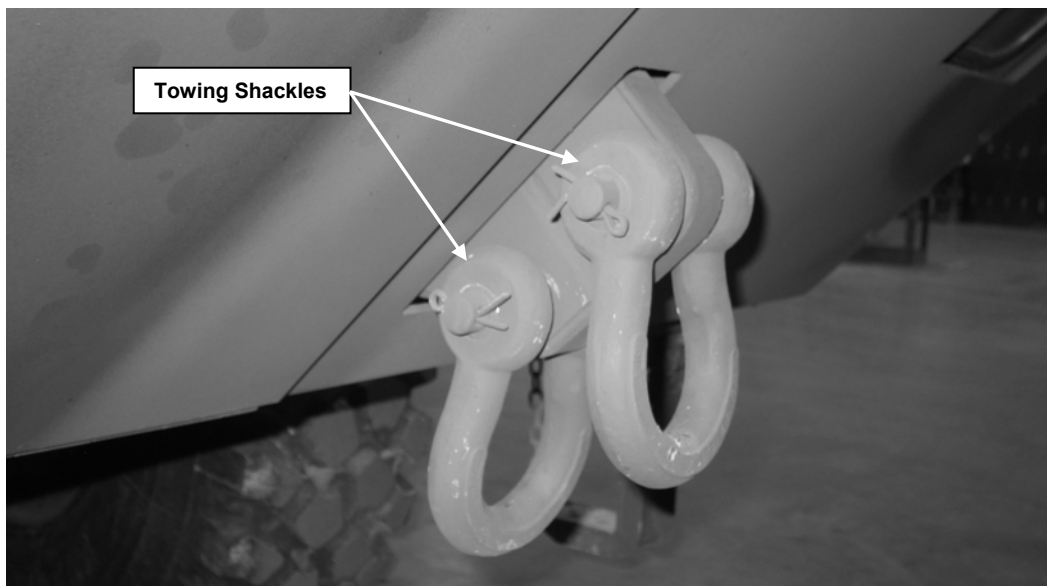

Figure 3. Front Towing Shackles.
- b) Remove the four Towing Shackles located at the front of the vehicle (see Figure 3).